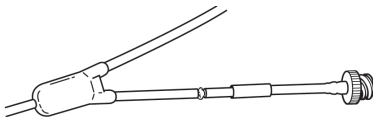

Fig. 13
4. Apply adhesive to the junction. (Fig. 13)